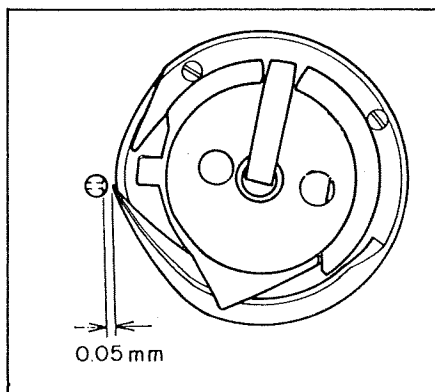

Fig. 21B
- When the points of left and right sewing hooks coincide with the center lines of their needles, the clearance between each hook point and the needle face is 0.05mm as shown in Fig.21B.